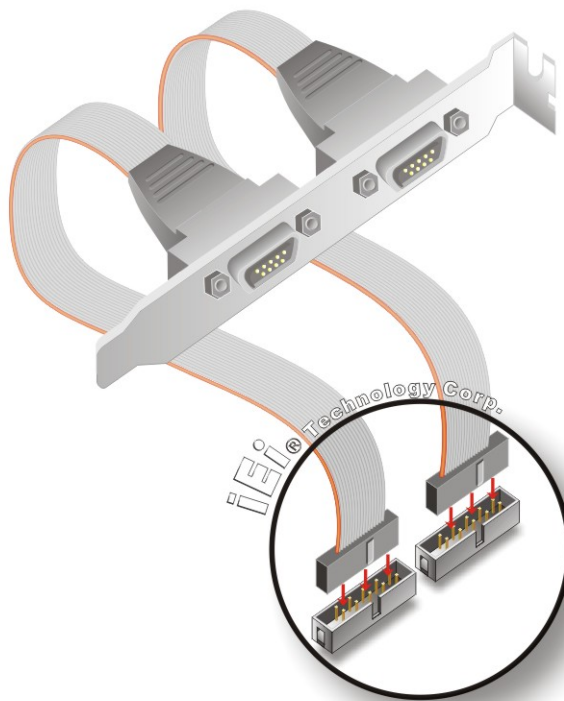

Figure 5-8: Dual RS-232 Cable Installation
Step 2: Insert the cable connector. Insert the connectors into the serial port box headers. See **Figure 5-8**. A key on the front of the cable connectors ensures the connectors can only be installed in one direction.
Step 2: Insert the cable connector. Insert the connector into the serial port box header. See **Figure 5-8**. A key on the front of the cable connectors ensures the connector can only be installed in one direction.